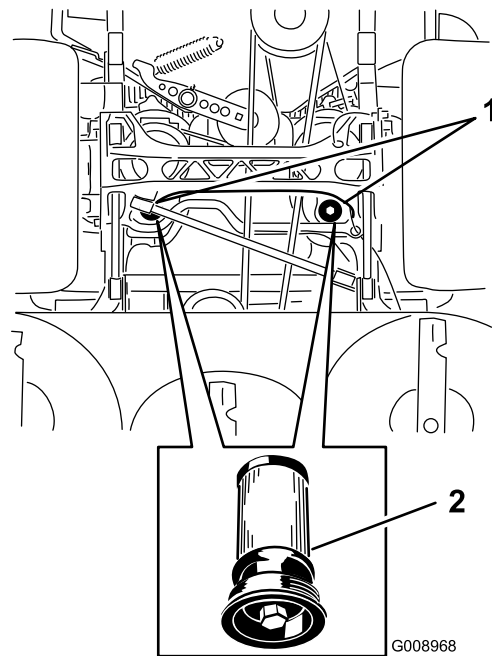

Figure 91
5. Place a drain pan under the filter, remove the old filter and wipe the surface clean (Figure 91).
6. Apply a thin coat of hydraulic oil to the rubber gasket on the replacement filter (Figure 91).